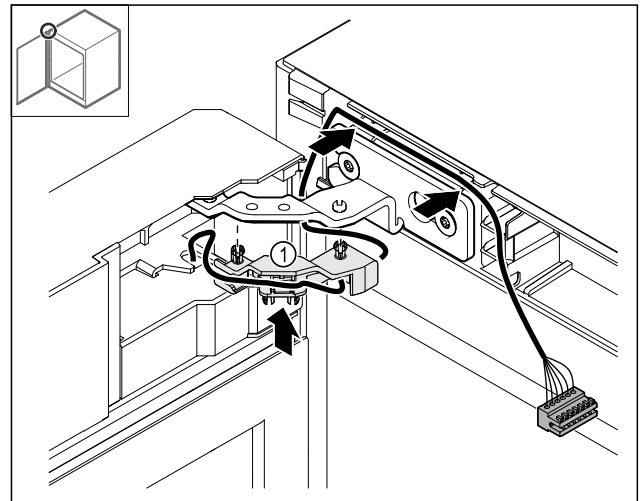

Fig. 51
- Press the cable bracket Fig. 51 (1) into the hinge.